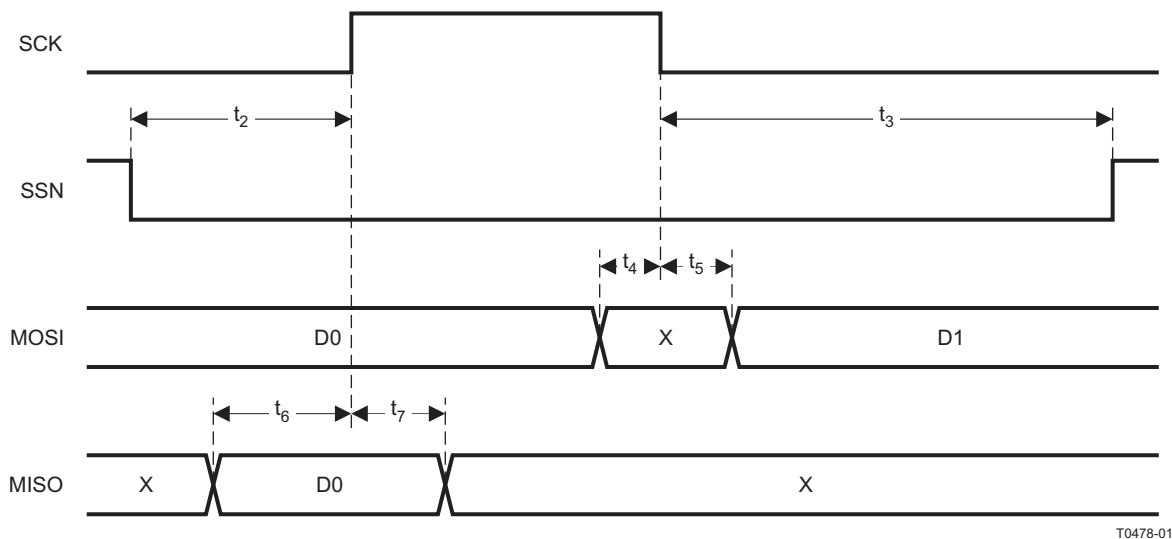

**Figure 1. Control Input AC Characteristics**
| RESET_N low duration                                                           | See item 1, <a href="#">Figure 1</a> . This is the shortest pulse that is recognized as a complete reset pin request. Note that shorter pulses may be recognized but do not lead to complete reset of all modules within the chip. | 1   |     |     | $\mu\text{s}$ |
| Interrupt pulse duration                                                       | See item 2, <a href="#">Figure 1</a> . This is the shortest pulse that is recognized as an interrupt request.                                                                                                                      | 20  |     |     | ns            |